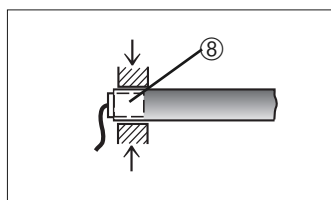
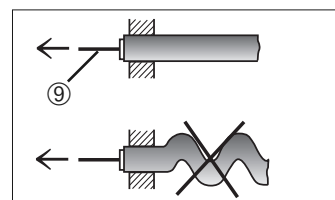

fig. 1
fig. 2
Keep the initial alignment of the leads and conduits unchanged. Place the back-up ring ⑧ in the locking area fig. 1. Tie the security string ⑨ fig. 2.